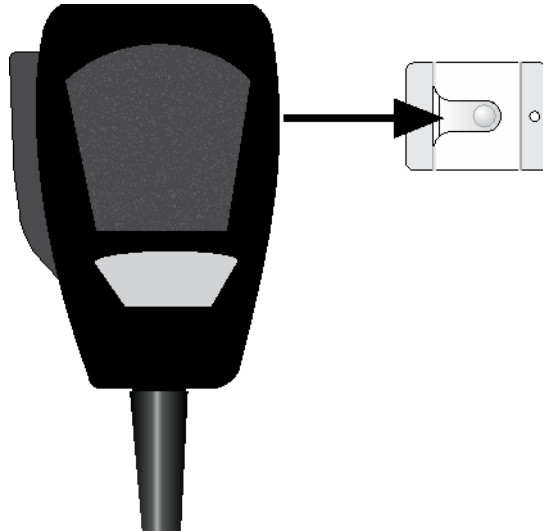

Figure 4-42 Sliding Microphone into Microphone Clip
1. Clip the microphone into the micro phone clip. See Figure 4-42.